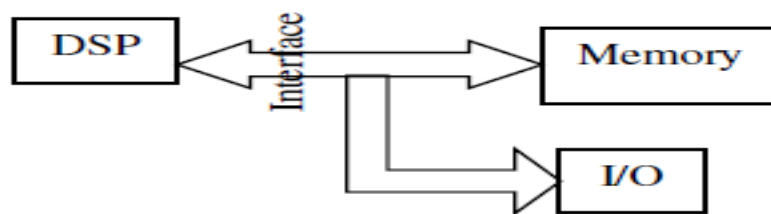

Fig. 7.10: Interface between DSP and external devices
- In any application, there is data transfer between DSP and memory and also DSP and I/O device, as shown in fig. 7.10. However, there may be need for transfer of large amount of data between two memory regions or between memory and I/O.